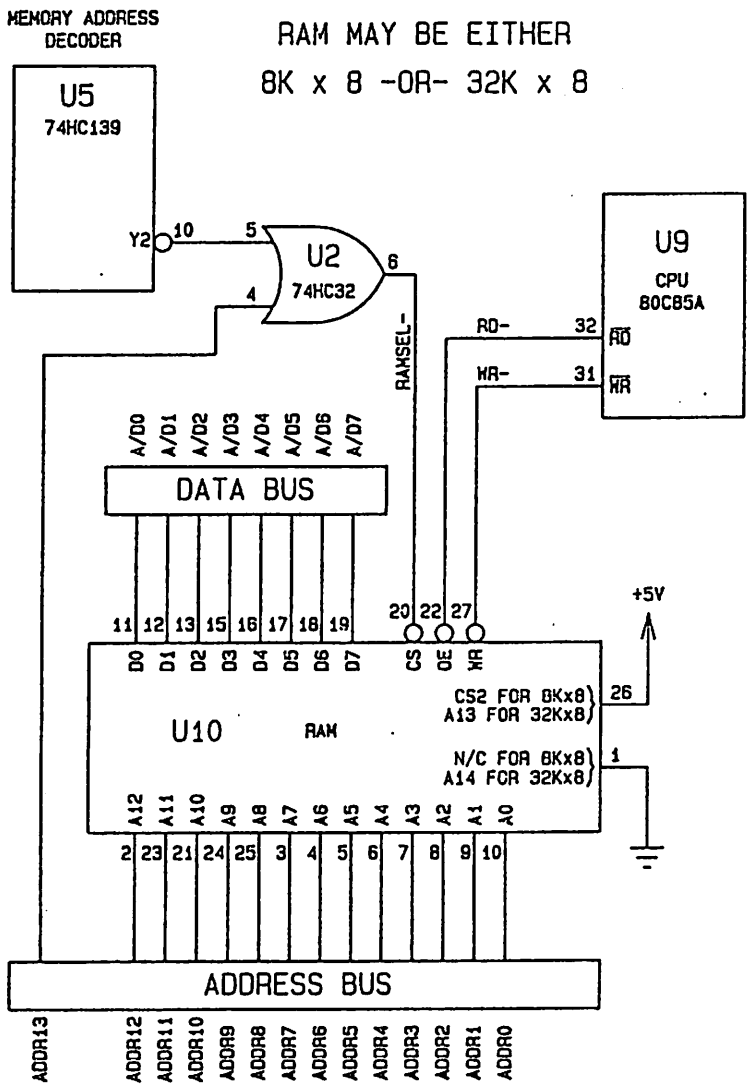

Figure 3-9. Random Access Memory
3.3.2 Random Access Memory (RAM, U10, figure 3-9)